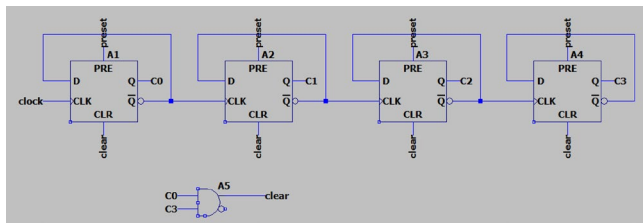

Fig.1b
- b) Divide-by-9 counter as shown in Fig.1b